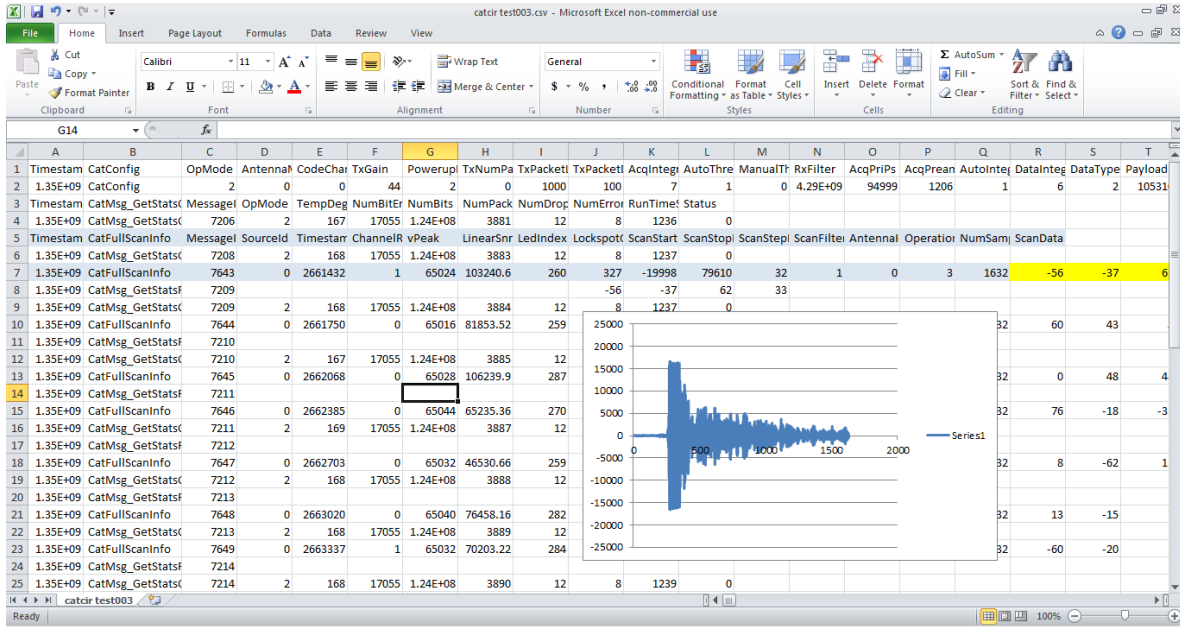

Fig. 25: Annotated text logfile containing CAT waveform data
7. **Figure 25** shows a sample logfile. The file has been annotated in a number of ways. First, the upper line highlighted in blue provides the names of each of the column entries. Second, the lower line highlighted in blue provides the data for each of the column entries. For example, the waveform scan collected in row 7 was taken at a Timestamp of 2661432 ms relative to the boot time and recorded a peak voltage (vPeak) of 65,016. The recorded scan consists of 1,632 (NumSamp) measurements, the first of which is shown in the left-most column in the yellow row. Finally, to illustrate that the measurements are reasonable, a plot of the 1,632 readings is also shown.